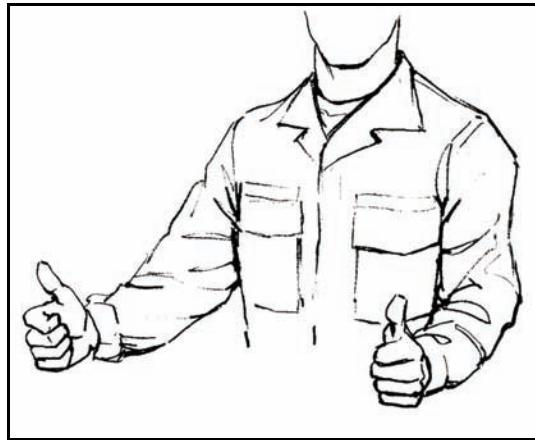

Figure 3-8. Arm-and-hand signal for GET READY.
- (1) **GET READY** (Figure 3-8). The rappel master extends both arms to the front with fists clenched and thumbs pointing upward.